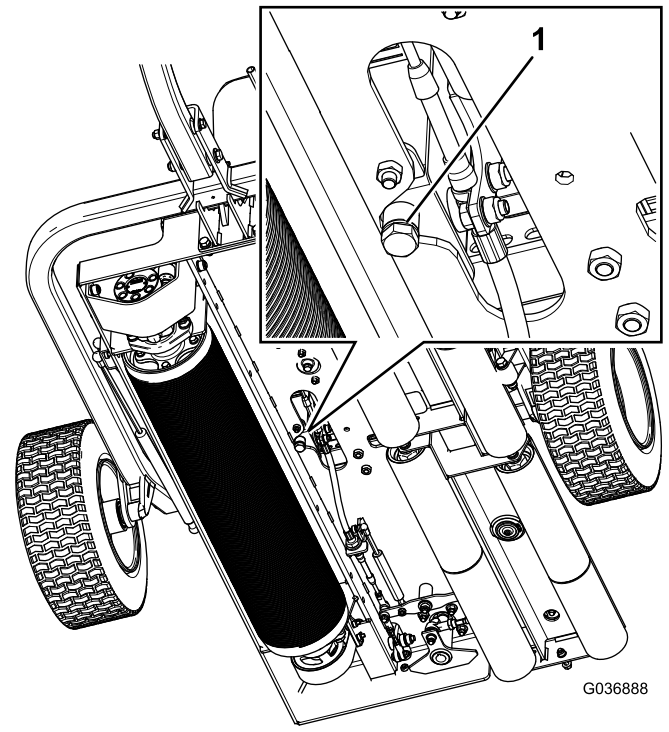

Figure 35
1. Place a drain pan under the hydraulic-tank drain plug (Figure 35).
2. Remove the drain plug from the bottom of the tank (Figure 35).